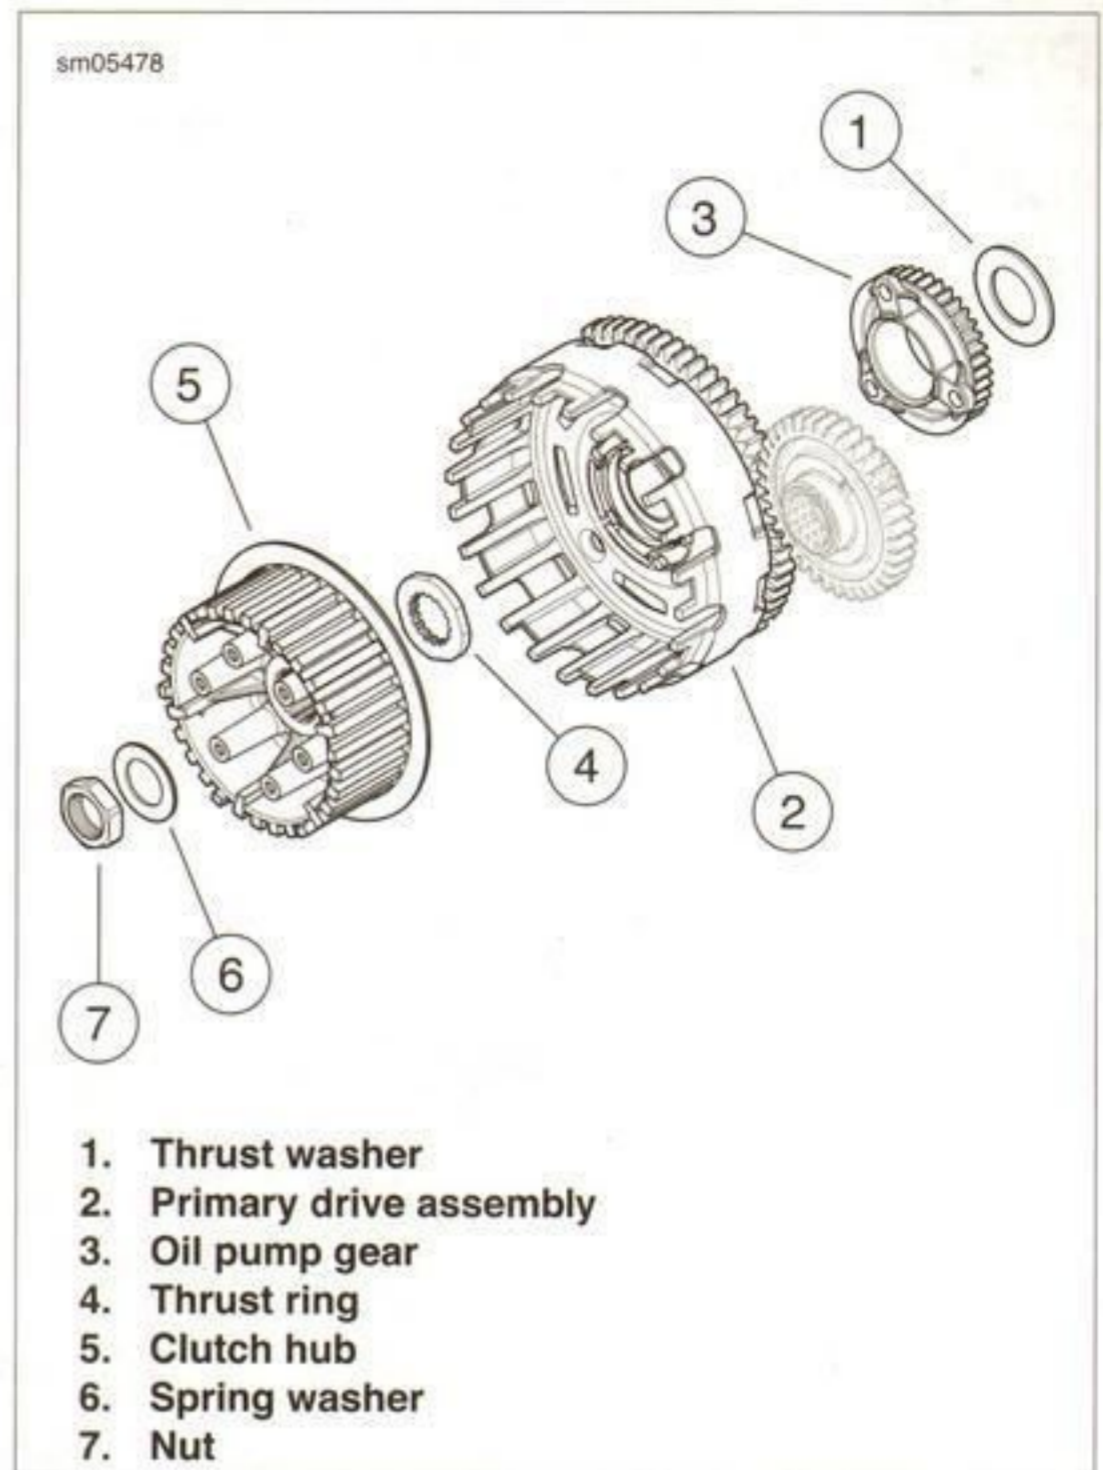

Figure 6-52. Clutch Basket Assembly
2. See Figure 6-52. Fit the thrust washer (1) over the mainshaft.
3. Slide the primary drive assembly (2) with the oil pump gear (3) over the splines engaging the primary drive engine sprocket.
4. Fit the thrust ring (4) over the splines inside the primary drive assembly.
5. Slide the clutch hub (5) over the splines inside the clutch drum.
6. Add the spring washer (6).
7. Apply LOCTITE 648 (green) to the threads of the mainshaft nut (7).